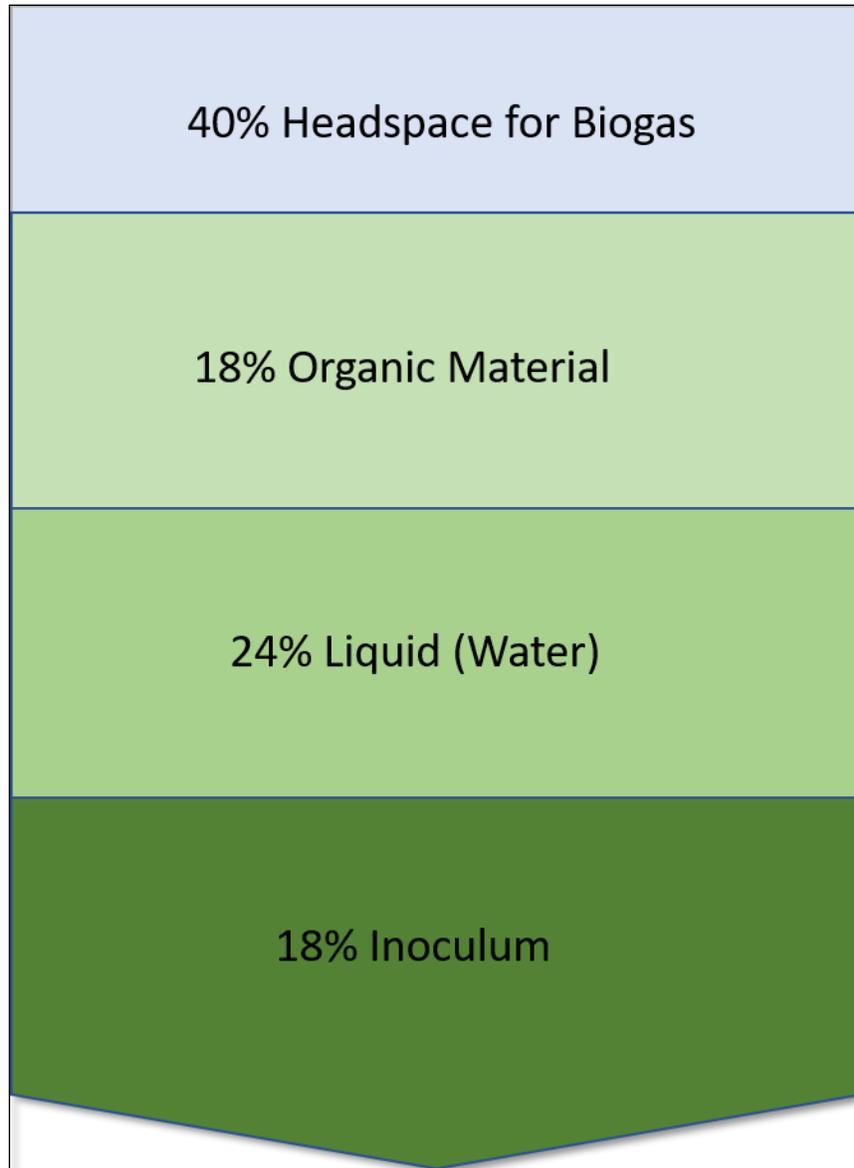

Figure 1: Typical Proportions of Materials in an Anaerobic Reactor
1. Calculate the correct proportions for your reactor, which can be viewed on Page 5 in Figure 1